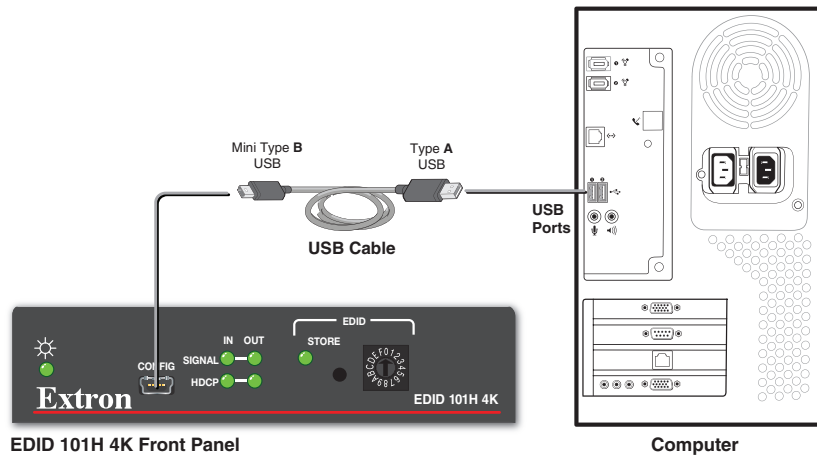

Figure 18. Connecting a PC to the Front Panel USB Port
1. Connect a USB A to mini B cable between the **Config** port on the front panel of the EDID 101H 4K and a USB port of the PC (see figure 18).